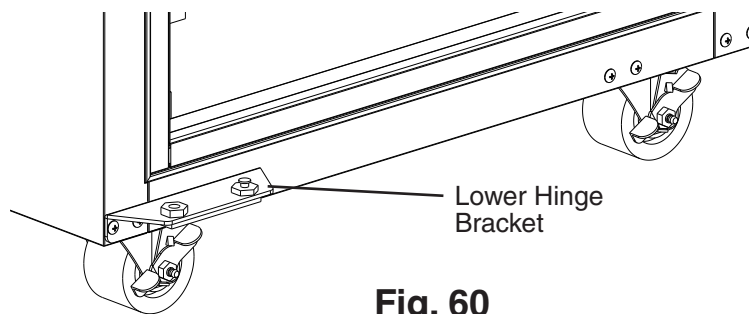

**Fig. 58**
- 10) Close the lower door. While supporting the lower door, remove the screws supporting the center hinge bracket, then lift the lower door (with center hinge bracket) from the lower hinge bracket and set aside. See Fig. 58.